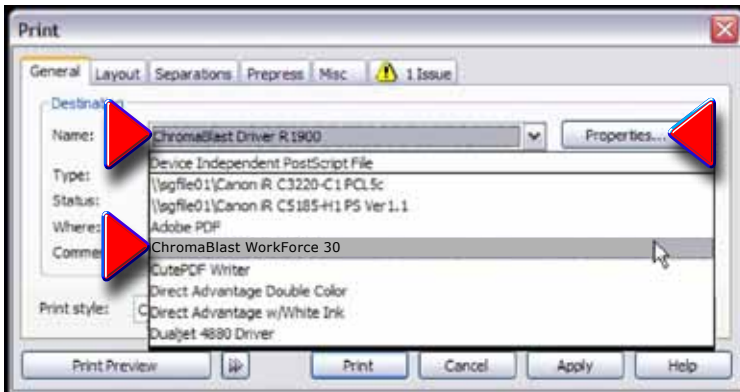

Figure 2
- 2) Select the **ChromaBlast WF 30/T30/B40W Driver**. Use the **“Properties” Button** (Fig. 2) to access **“ChromaBlast WF 30/T30/B40W Driver Properties”**. (Fig. 3, Page 31)
- 3) In **Figure 3**, you must set preferences according to the printing you require, either **“Photographic”**, **“Graphics”**, or **“No Color Management”**. You need also choose **Paper Size**, **Number of Copies**, **“High Speed”** or **“High Quality”**, **“Mirror”** or not, and **“ColorSure”** involvement, if any. Once this is done, click **“OK”** to return to the **“Print” Window (Fig. 2)**. Here, click on **“Apply”**, and then **“Print”**.